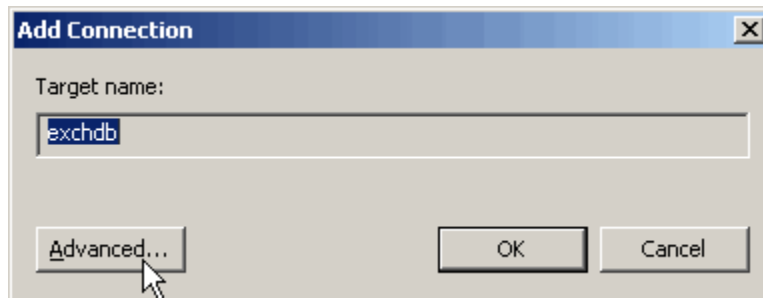

Figure 16. Configure Multi Connections – Add Connection Window
The Add Connection window appears (Figure 16).
12. Click **[OK]** (Figure 16).